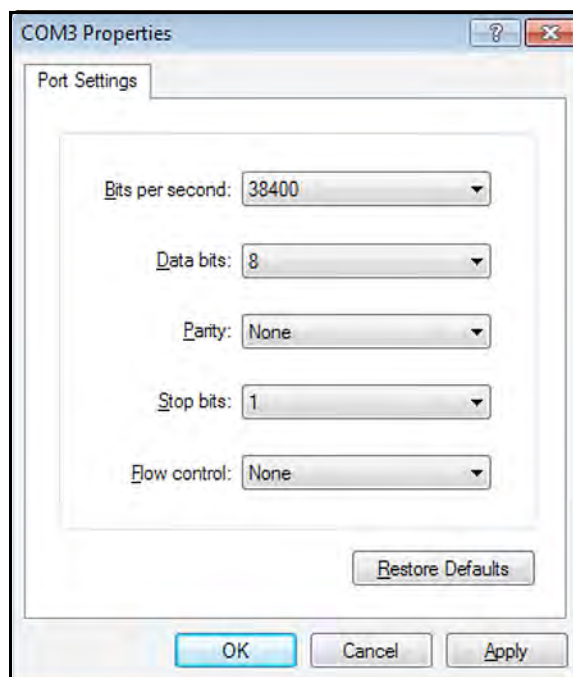

Figure 9: COM Properties
2. Start **HyperTerminal** and set up the communication link to match the PT878 Com port settings (see *Figure 9* below).